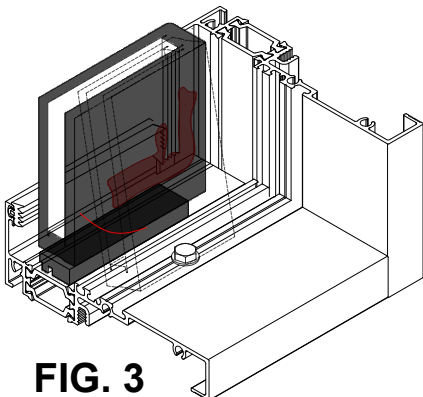

FIG. 3
- c. Set the glass onto the Setting Blocks and center the glass in the opening. **See FIG. 3**